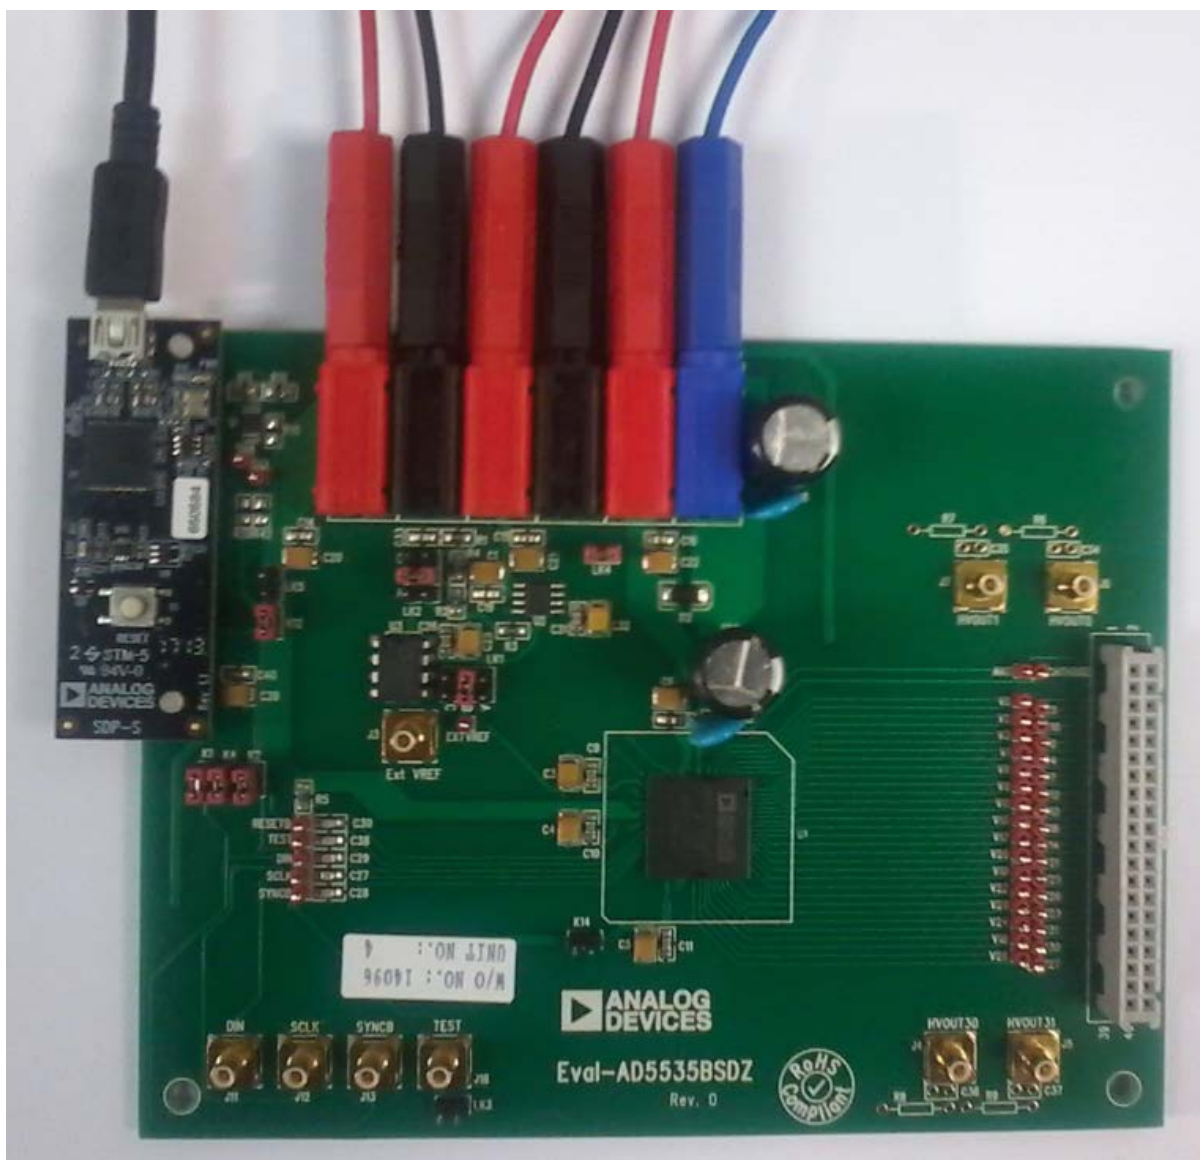

Figure 2. Hardware Configuration—Photo of the EVAL-AD5535BSDZ Board Connected to SDP-S and Powered
2. Connect the EVAL-SDP-CS1Z board to the EVAL-AD5535BSDZ evaluation board as shown in Figure 2. Screw the two boards together using the nylon screw/nut set included in the evaluation board kit to ensure that the boards are connected firmly together.
The EVAL-AD5535BSDZ evaluation board connects to the EVAL-SDP-CS1Z system demonstration board. The EVAL-SDP-CS1Z board is the controller board, which is the communication link between the PC and the EVAL-AD5535BSDZ evaluation board. Figure 2 shows a photograph of the connections made between the EVAL-AD5535BSDZ daughter board and the EVAL-SDP-CS1Z board.
1. Connect the EVAL-AD5535BSDZ evaluation board to Connector A of the EVAL-SDP-CS1Z board (see Figure 2).